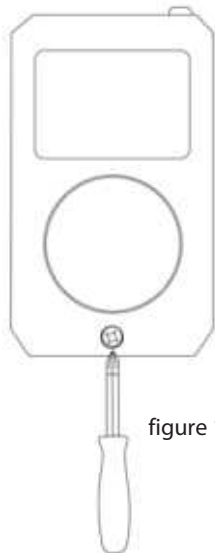

figure 1.
1. Remove the screw located on the backside of the case using a phillips head screwdriver (see figure 1). Once the screw is removed, open the case.